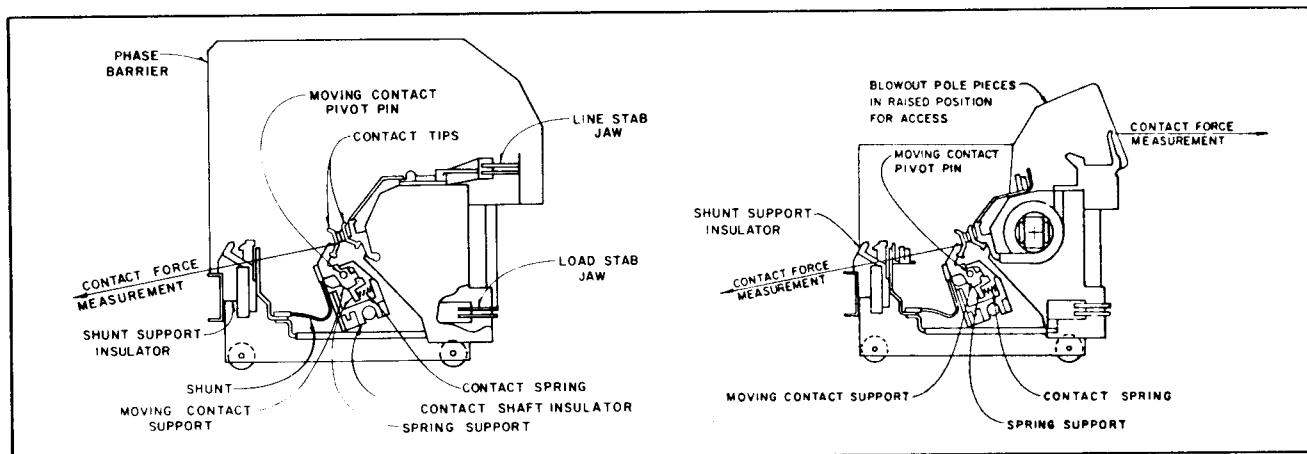

Figure 4
3. Check initial contact forces. Initial contact forces measured at the heel of contact face, as shown in Figure 4, should be 6 to 8 pounds.
To measure the initial force the armature should be blocked within  $1/16$ - $1/8"$  of the contact touch point. Force is then conveniently measured by looping a piece of string around the heel of the moving contact face and pulling in a direction perpendicular to the contact face as indicated in Figure 4. A small piece of cardboard or wood approximately 3" long should be suspended between the two strands of string to avoid interference with the shunt support insulator.
5. When the magnet is deenergized, the armature should come to rest within  $1/16$ " of its' stop or rest lightly against the stop with a force of 1 to 2 pounds. In this position, the armature gap "X" should be approximately  $1 \frac{7}{8}$ " and final contact forces, with new contacts, should be 13.5 to 15.5 pounds when measured at the heel of contact face as shown in Figure 4. When measuring final contact force, the armature should be blocked against its stop to obtain correct readings.